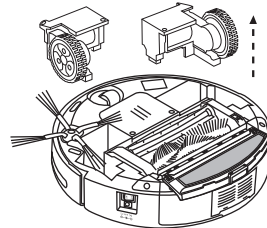

Figure 2
2. Take out the left/right wheel and clean them with the brush (Refer Fig 2). Don't wash in water.